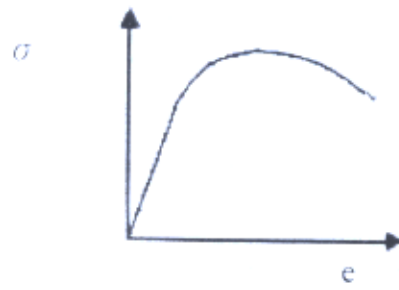
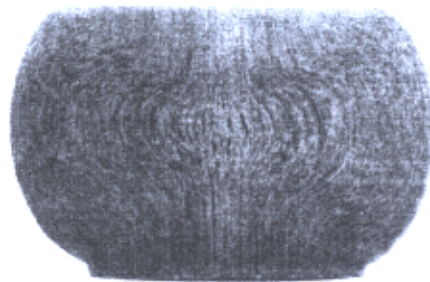

Fig 1
Fig 2
1. Fig. 1 shows the stress-strain diagram of a tensile test for a low carbon steel.
- a. Redraw Fig. 1, mark and identify on the figure the following properties and terms: (1).tensile strength, (2).yield strength, (3).breaking stress, (4).elongation, (5).elastic region, (6).plastic region, (7). Young's modulus, (8).necking, (9).strain hardening, and (10).toughness. 10%
- b. On the same figure, sketch the stress-strain diagrams for the following four types of materials: (1). low carbon steel, (2). annealed medium carbon steel, (3). annealed high carbon steel, and (4) quenched high carbon steel. 4%
2. Fig.2 shows the cross section of a cylindrical forged part. Explain why the top, middle and bottom sections have different shapes after forging at elevated temperatures. If the original cross sectional area is A, write the equation to estimate the starting forging force. 10%